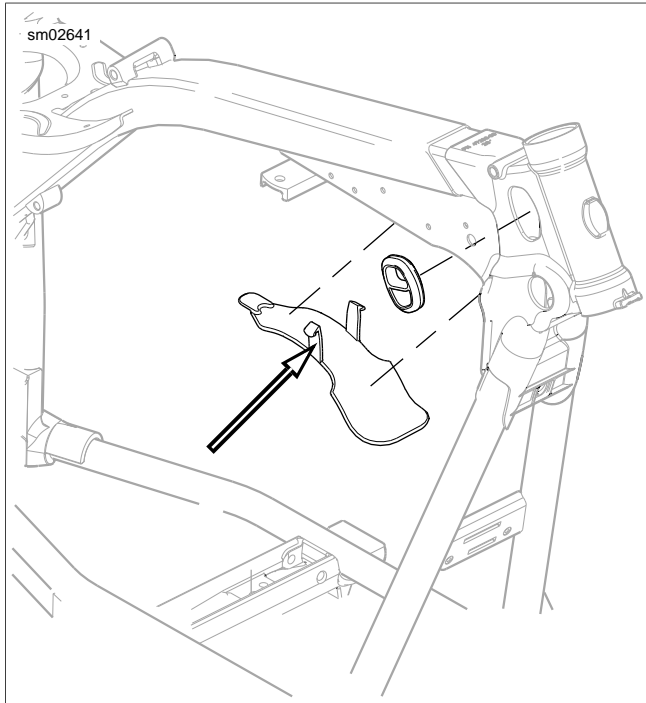

Figure 7-77. Harness Shield
13. See Figure 7-77. Remove harness shield by pushing both tabs of shield in at the same time.